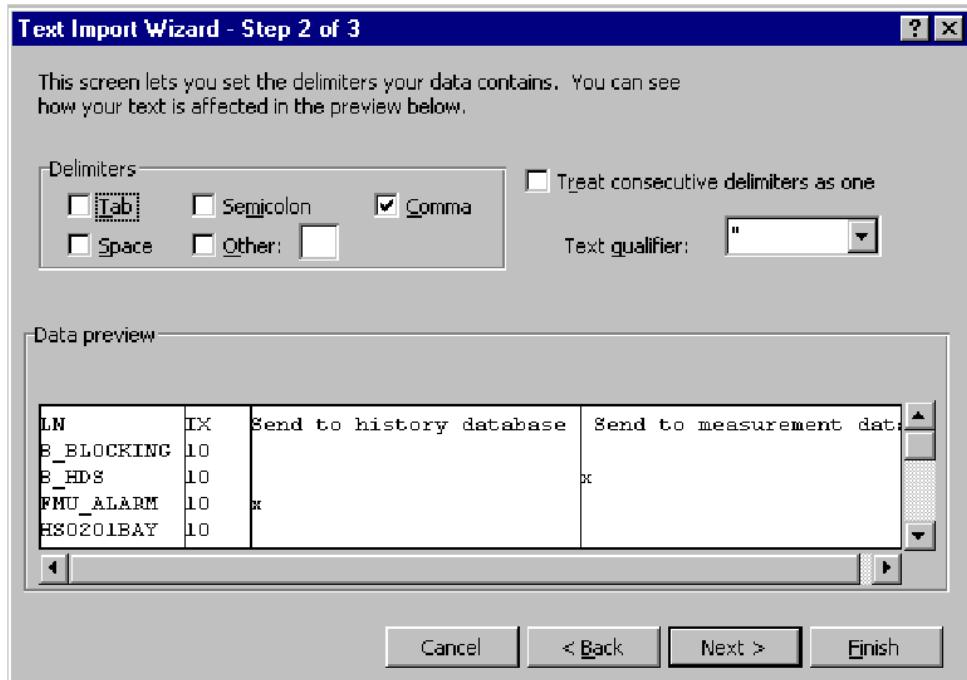

Figure 43: Excel Text Import Wizard, step 2
5. Select **Comma** in the Delimiters field, see Figure 43.